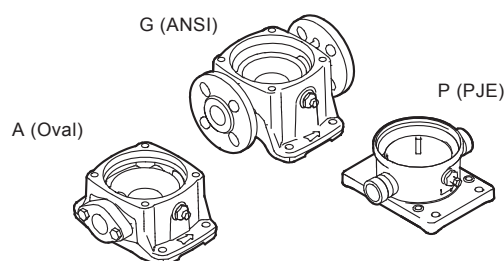

Fig. 51 Pump connections
- Oval flange (NPT) - fig. 51
- ANSI flange - fig. 51
- PJE coupling - fig. 51